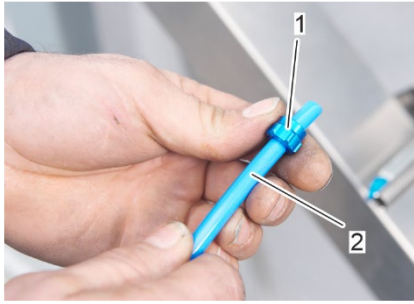

Fig. 64: Slide the union nut on the other end of the compressed air hose
7. Slide the union nut (Fig. 64/1) onto the other end of the compressed air hose (Fig. 64/2).